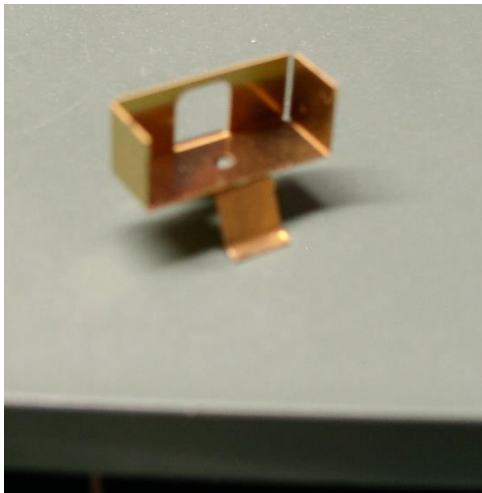
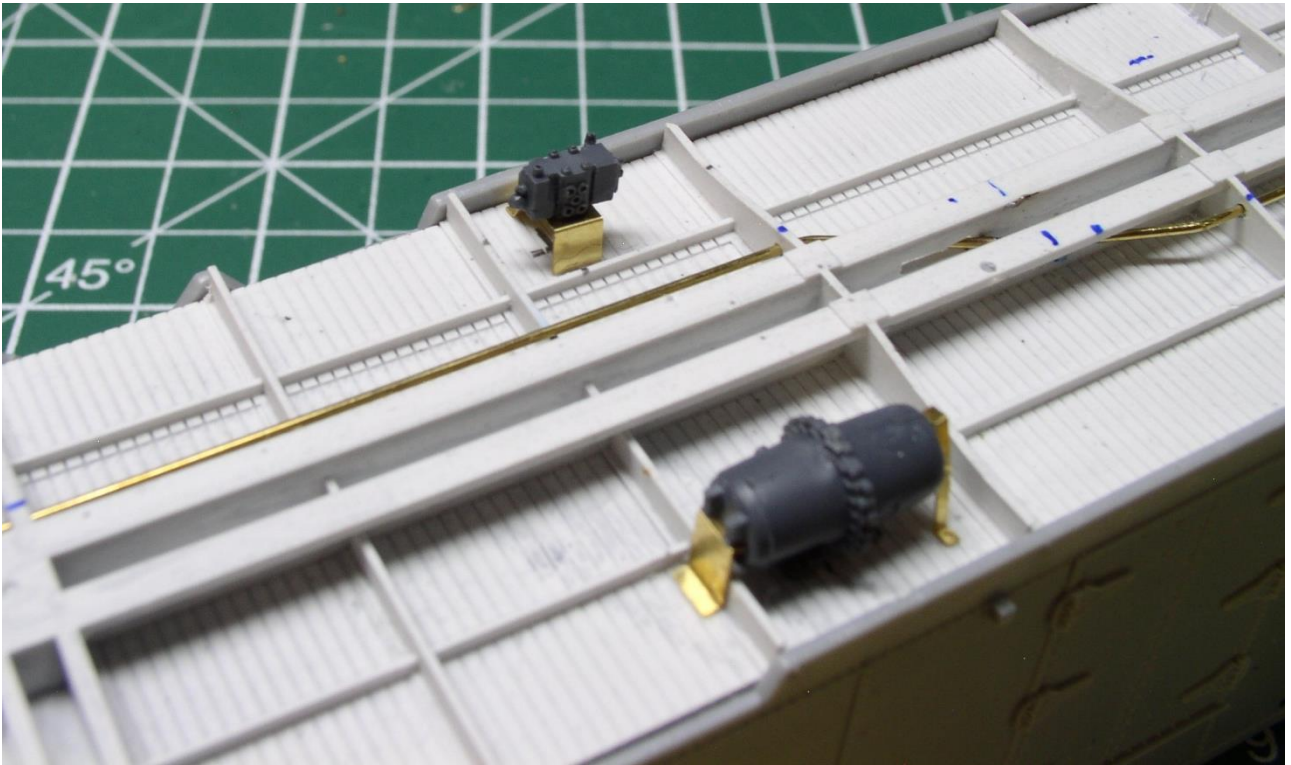

Figure 10c
Figure U10e
10. Measure 2' 7 3/4" from the main cross bearer right across from the Brake Reservoir and mark. Then measure 3' 3 11/16" from the centre of the centre sill and make a mark. See Figure U10a. This is where the centre of AB valve bracket will go. You can use the shield if you are modelling after 1945. Cut out the Triple Valve Bracket from the Etch Fret. Cut off the short leg at the long end. On either side of the etched out section you will now have a long part and a short part. Bend the short part 90 where the etch line is to form the front leg. Bend the longer piece in the same direction but only about 30 degrees and form a bit of a leg. See Figure U10b for the formed bracket. If you are adding the shield, do it now. See Figure 10c for the formed bracket with the shield. The reefers in these series were not built with the shield. It was added later. Glue the bracket in place centred on the mark you made. See Figure U10d. Glue the AB valve to the bracket with the connections pointing toward the Centre Sill. See Figure U10e.